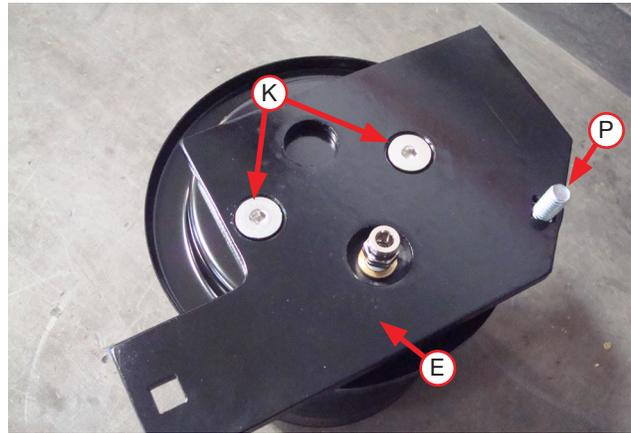

Fig. 16
2. Insert a 3/8" carriage bolt (P) into the square hole of the right-hand upper spring bracket (E) on the opposite side of the tapered holes as shown in Fig. 16. Set the bracket onto the air spring assembly and install with two flat head screws (K). Torque the screws to no more than 20 lb.-ft. (27Nm).